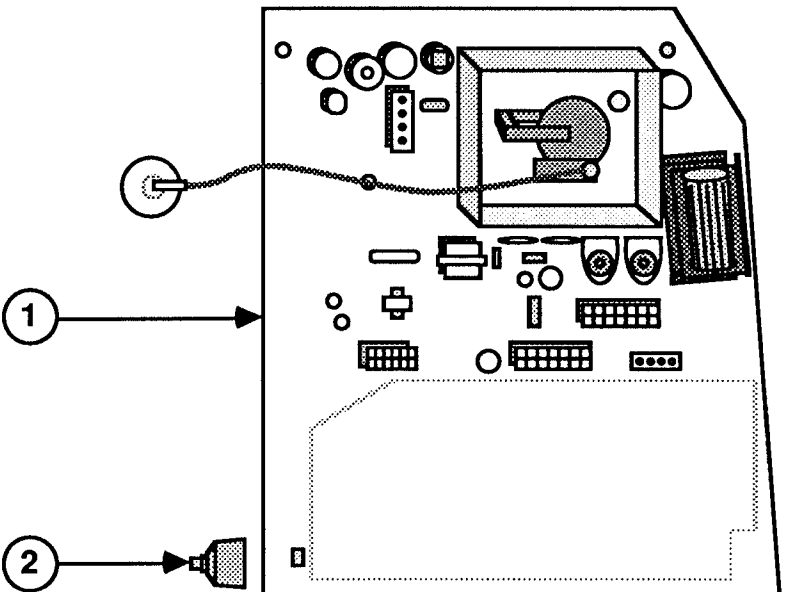

FIGURE 5
- IPL.11 Analog Board (Figure 5)
□ MACINTOSH SE – ANALOG BOARD (Figure 5)